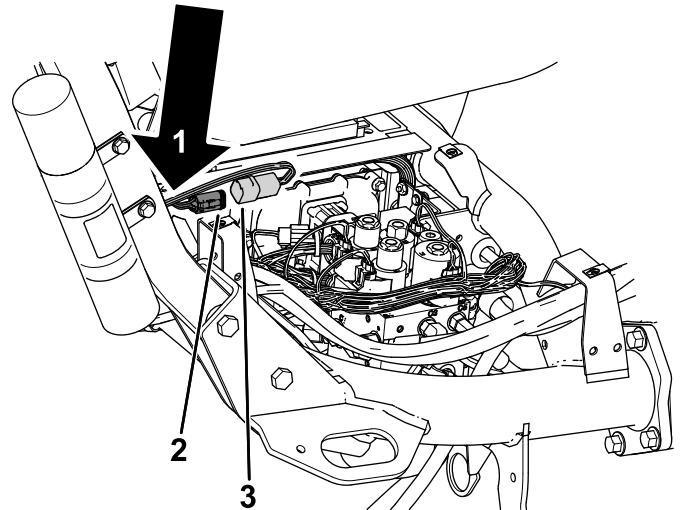

**Figure 10**
4. Remove the right side cover (Figure 10) from the machine.
8. Install the right side cover to the machine (Figure 10).